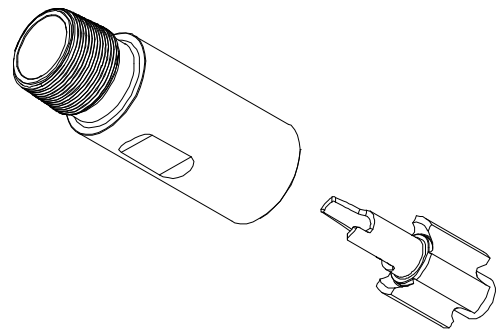

Figure 11-16 HH46, HH57, HH68, HH108 End Cap, Valve Guide, Shock Absorber
- **(HH 46, HH57, HH68, HH108)** After completion of Step 1, the Valve Guide and Shock Absorber will remain attached as shown in Figure 11-16. Skip Steps 3, 4 and 5 and continue with Step 6.